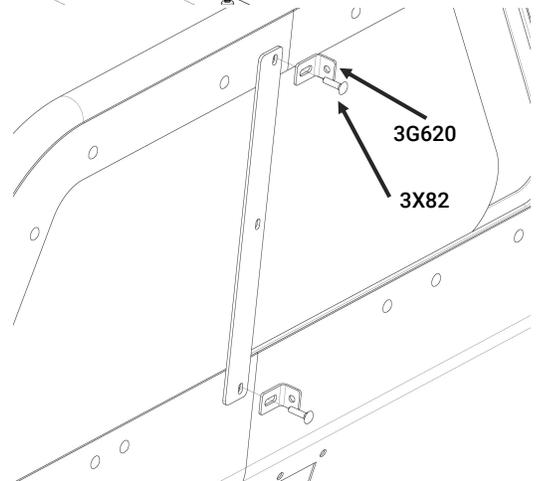

Figure 4
- D. Reinstall the screw removed in Step B and install the (2) bolts [3X616] that thread into the OSB bar.
- E. Prepare the (2) angle brackets [3G620] and (2) of the medium length carriage bolts [3X82].
- F. Locate the black reinforcement bar on the rear of the partition near the center of the window. Working one bolt at a time, remove the bolt from the partition window, set an angle bracket [3G620] on top of the reinforcement bar with the flange facing the passenger side of the vehicle, and loosely secure with the medium length carriage bolt [3X82] and the nut that was originally securing the window (Fig 4). Leave these bolts loose enough for the brackets to be adjusted in a later section.